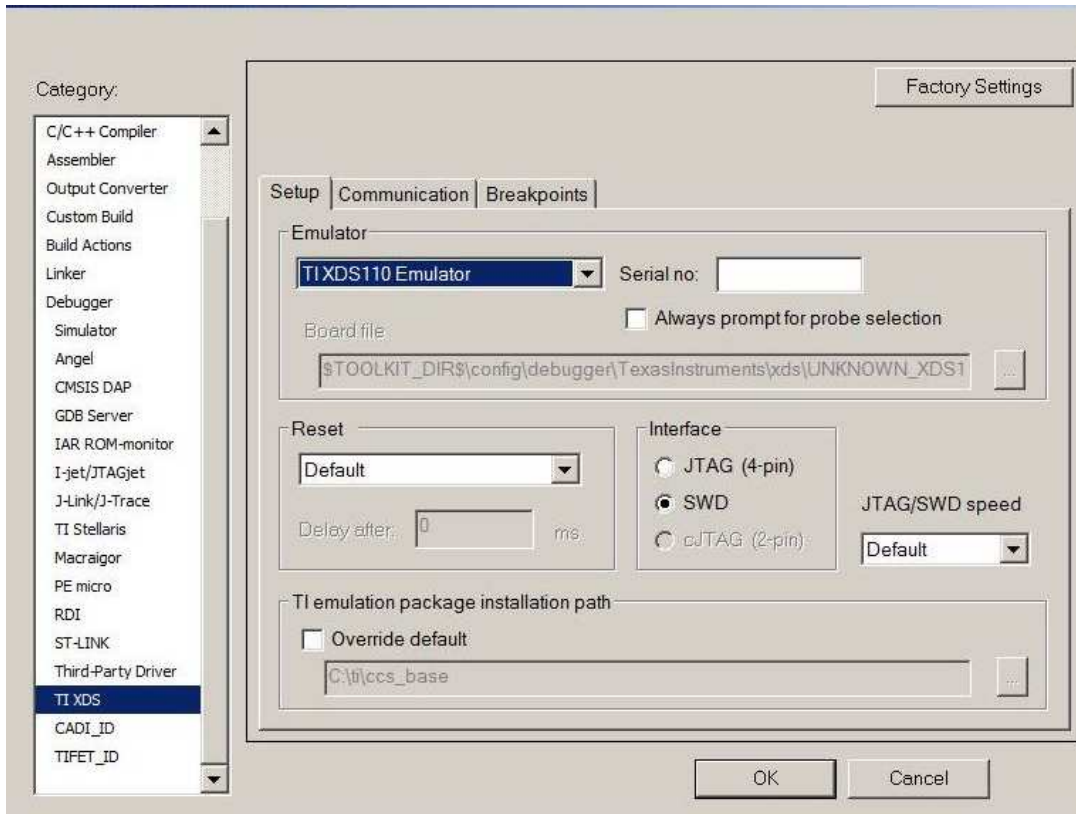

Figure 31. IAR XDS110 Debugger
2. Go to the TI XDS category, choose TI XDS110 Emulator as the emulator and JTAG (4-pin) as the interface (see Figure 31).